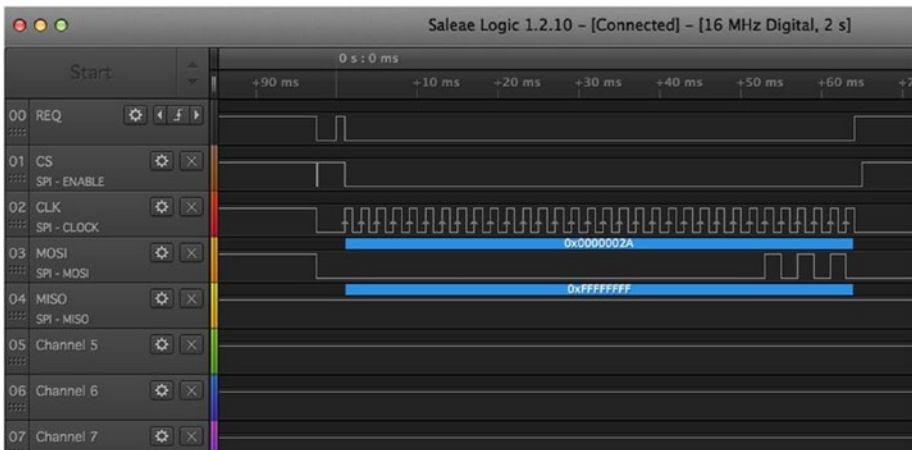

Figure 7-5. Logic analyzer display
Figure 7-5 shows the output of a logic analyzer (LA). The LA can monitor and trigger on individual lines (here I triggered on REQ on channel 0). In addition, logic analyzers can interpret well-known communication protocols such as the RS-232 serial protocol, the I2C protocol, and, as in this case, the SPI protocol. I have informed the LA of the four SPI lines, the endianness and length of the data, and the phase and polarity of the clock; the LA can interpret the data on the MOSI and MISO lines and display the result. In this example, the MOSI line is showing a 32-bit number that was transmitted MSB first and is interpreted as 0x2A.